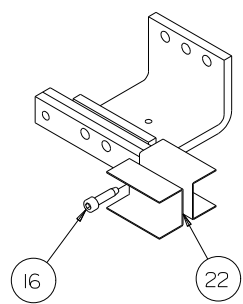

Figure 9
10. Reference fig. 9 - Installing the provision barrier (item 22). In the case of a provision, orient the barriers as shown in fig. 9. Insert the 10-24 socket-head cap-screw through the 0.228 hole in the barrier and through the 0.173 hole in the B-phase link and tighten. Repeat this step if there is another provision.